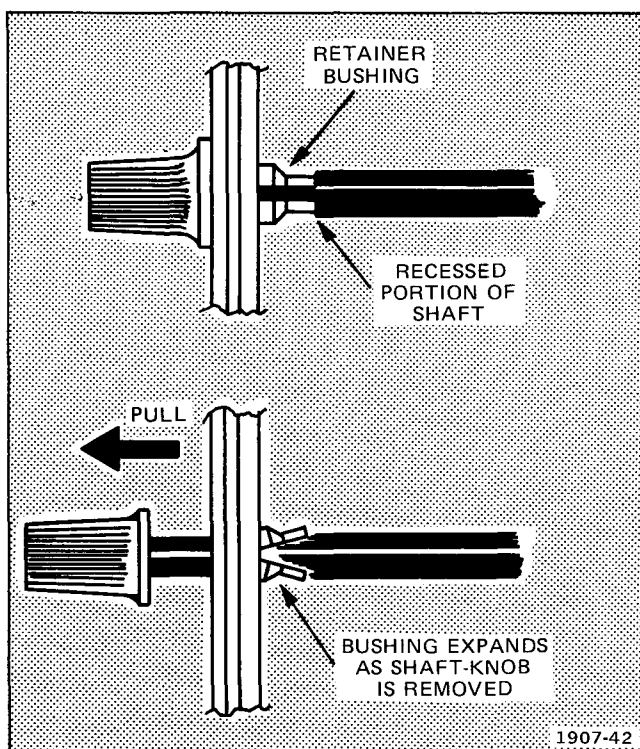

Fig. 5-6. Shaft-knob removal.
2. Pull on knob, while pushing on shaft, to free recessed portion of shaft from retainer bushing (see Fig. 5-6). Some shaft-knobs may require considerable force to remove.